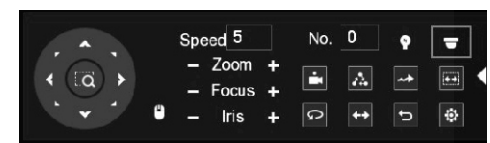

Figure 4-6
Step 3 Click **▶** to see more options. See Figure 4-6.